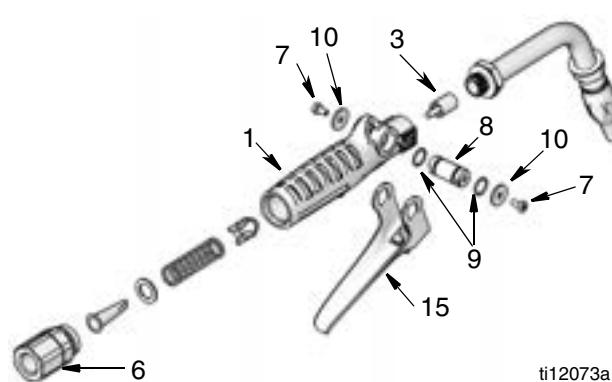

FIG. 3
2. If you are replacing the seals (9), the cam (8) or the push rod (3), remove the swivel (6) and remove the internal pieces. **You must remove the cam in order to get the push rod out of the valve end.**
3. Remove screws (7) and washers (10) and remove trigger (15).
4. Push cam (8) out of valve handle (1).
5. Replace seals (9) and/or cam (8).
7. Reassembly internal parts. Refer to FIG. 3 for correct installation order and orientation of parts.
8. Lubricate the cam (8) and slide it into the valve handle (1), making sure the notch is oriented as shown in FIG. 3, with the large end of the push rod (3) resting in the notch of the cam.
9. Replace the screws (7) and seals (9). Torque screws to 15 -25 in-lb (1.7 to 2.8 N•m).
10. Replace swivel (6). Torque to 15-20 ft-lb (20-27 N.m).